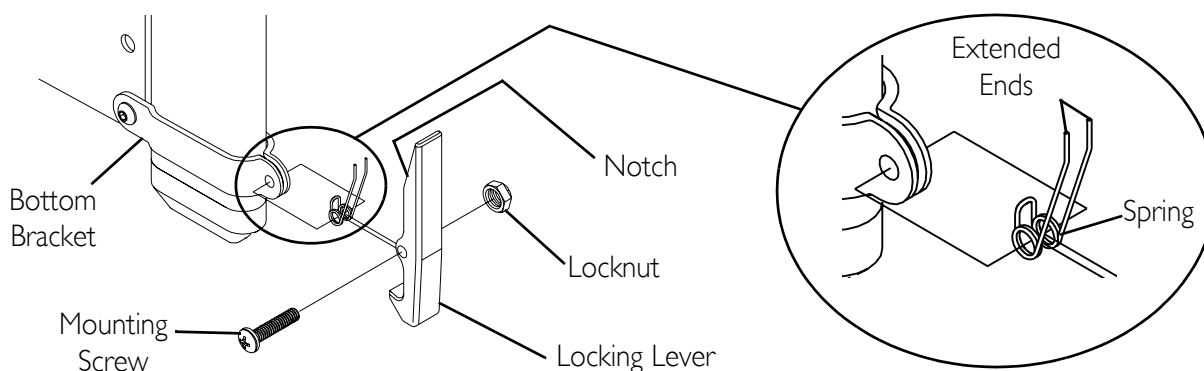

FIGURE 6.20 Replacing the T-Arm Locking Lever
NOTE: For this procedure, refer to FIGURE 6.20.
4. Position the spring on the bottom bracket (FIGURE 6.20).